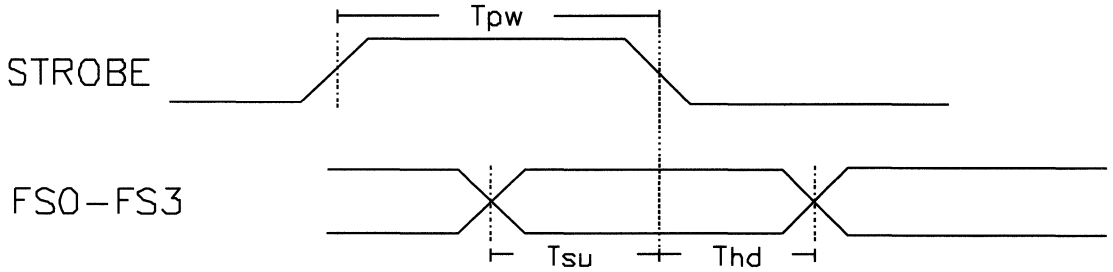

Figure 2
FS0 (3), **FS1 (4)**, **FS2 (6)**, and **FS3 (7)**, are the TTL compatible frequency select inputs for the binary code corresponding to the frequency desired. **STROBE (5)** when high, allows new data into the frequency select latches; and when low, prevents address changes per Figure 2. The internal power-on-clear signal will force an initial frequency code corresponding to an all zeros input state. **MS0 (8)** and **MS1 (9)** are the corresponding memory select inputs and are not strobed.